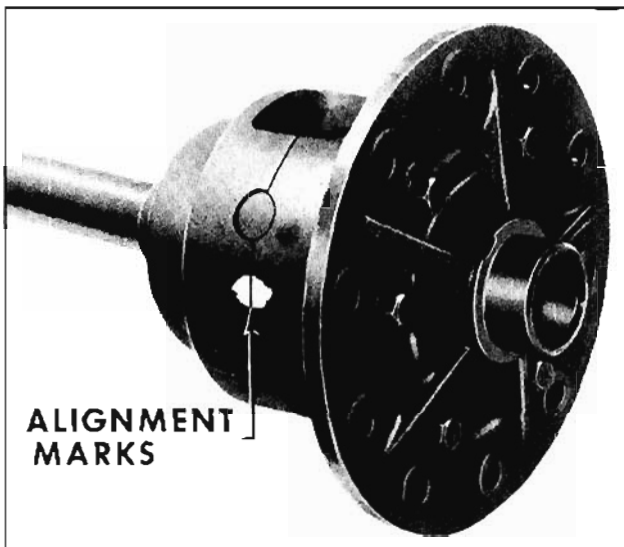

Fig. 10-134 Alignment Marks
4. Mark flange half of case and cover half with a center punch or paint to provide alignment for reassembly. (Fig. 10-134)